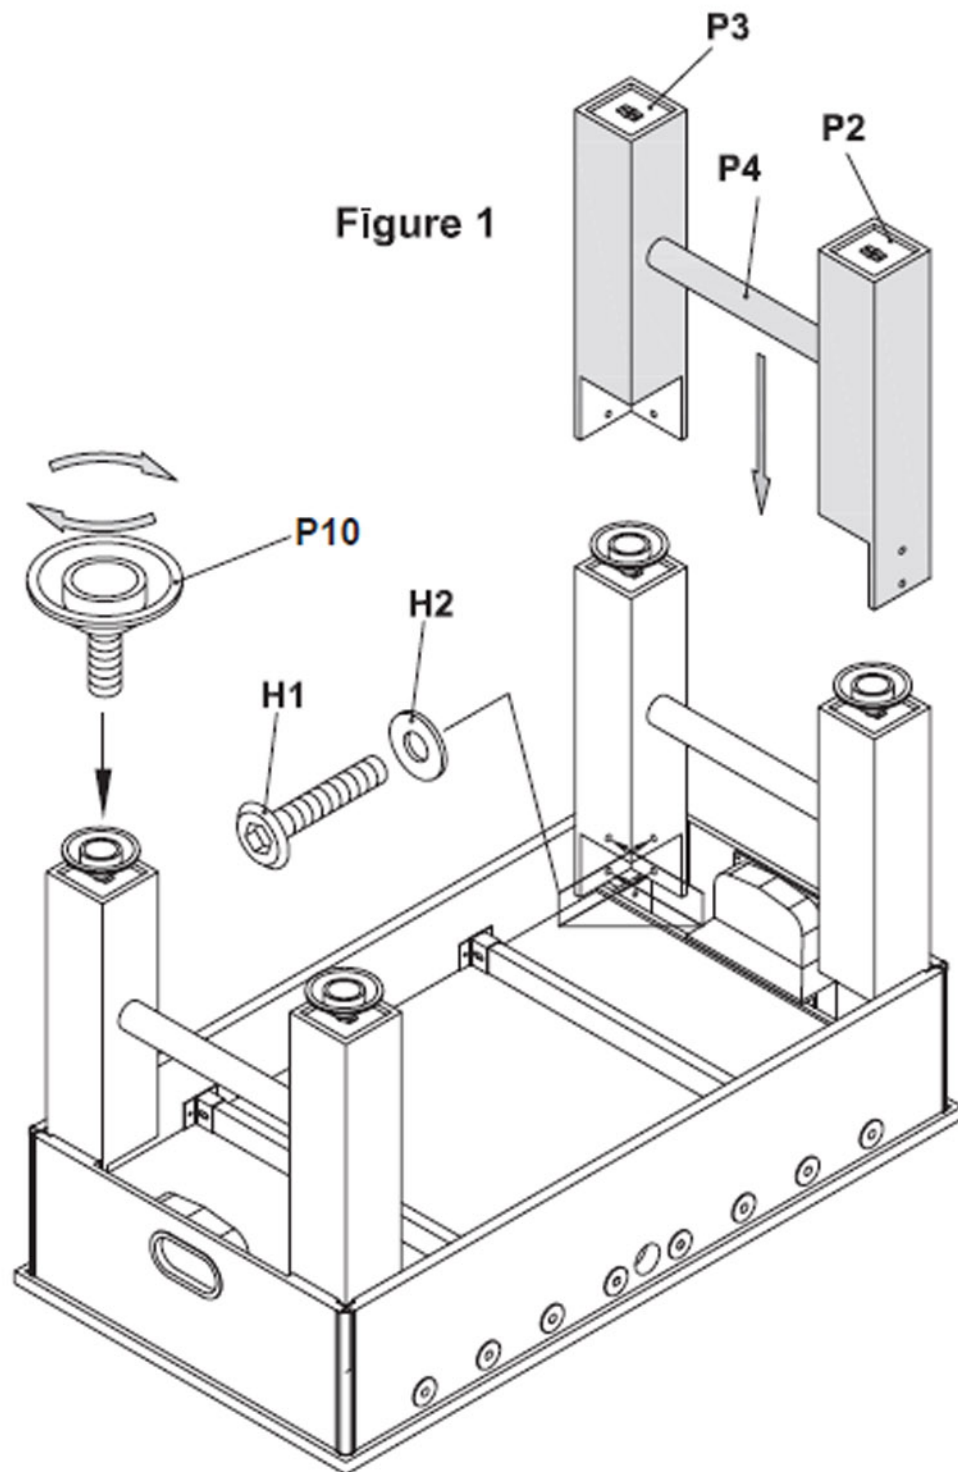

Figure 1
2. Insert the cross bar (P4) to the legs (P2) and (P3) as shown in figure 1.
4. Attach the leg levelers (P10) as shown in figure 1.